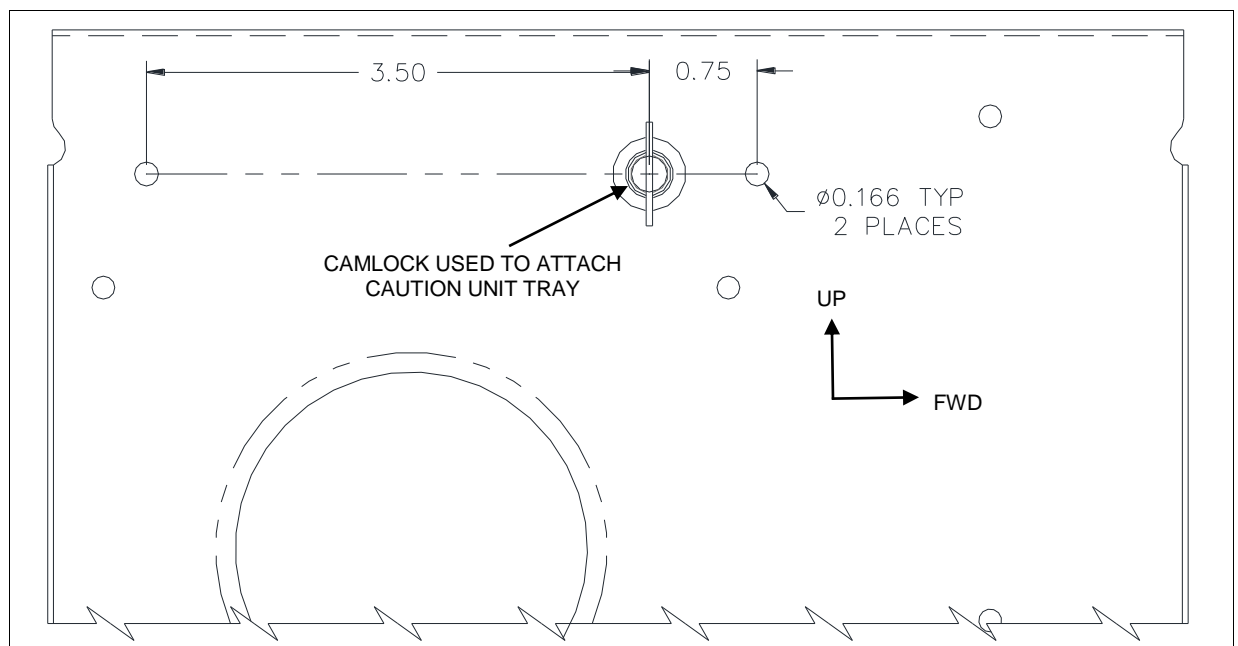

Figure 2 – Caution Unit Tray attachment hole locations. Tolerance ± 0.05 ”
9. Inspect the attachment of the Caution Unit Tray to the aircraft structure. If the Caution Unit Tray is attached via the camlock and two screws in the approximate locations as shown in Figure 2, then disconnect the Caution Unit Tray, lower it towards the aircraft floor and then skip to Step 14, otherwise continue.
10. Inspect for two holes in the approximate locations shown in Figure 2.
12. Inspect for rivnuts adjacent to the camlock receptacle in the cockpit structure behind the Caution Unit Tray (to approximately align with holes in Figure 2).
- b. If there are no holes and rivnuts are not installed, then re-attach Caution Unit Tray via camlock. Drill two holes into the Caution Unit Tray, and the cockpit side wall structure behind, in accordance with Figure 2. Disconnect the Caution Unit Tray and lower towards the floor. Install a rivnut (Item 251) into each of the two holes in the cockpit side wall structure.
9. Inspect the attachment of the Caution Unit Tray to the aircraft structure. If the Caution Unit Tray is attached via the camlock and two screws in the approximate locations as shown in Figure 2, then disconnect the Caution Unit Tray, lower it towards the aircraft floor and skip then to Step 14, otherwise continue.
- b. If there are no holes and rivnuts are not installed, then re-attach Caution Unit Tray via camlock. Drill two holes into the Caution Unit Tray, and cockpit side wall structure behind, in accordance with Figure 2. Disconnect the Caution Unit Tray and lower towards the floor. Install a rivnut (Item 251) into each of the two holes in the cockpit side wall structure.